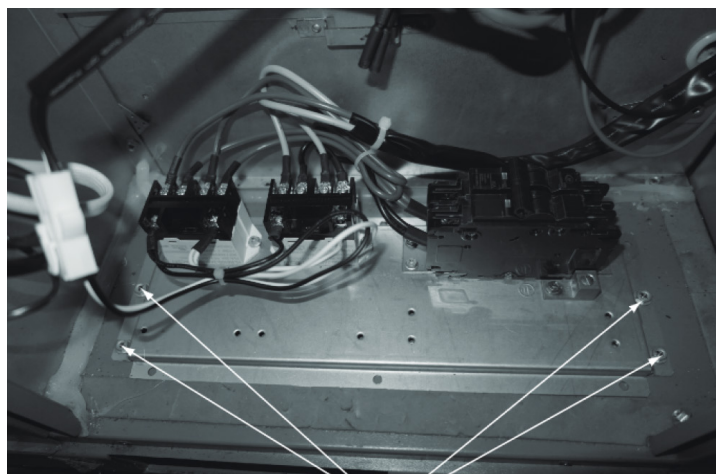

Figure 3.13
9. Secure the electric heat kit electric control installation board with the four screws provided. (See Figures 3.13 & 3.14.)